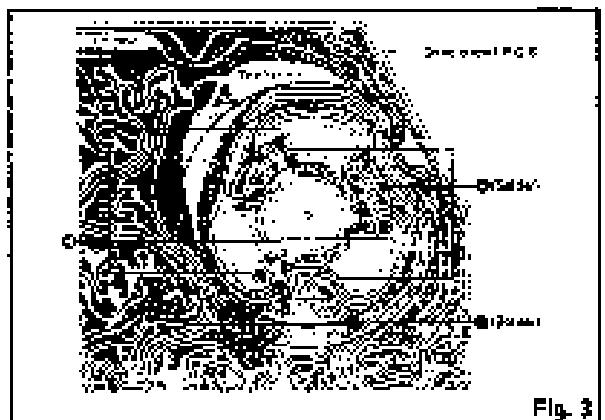

Fig. 3
6. Disconnect 18 soldered parts ⑥ of the stator coil and 4 soldered parts ⑦ of the F.G. detector coil as shown in Fig. 3.
7. Remove 3 screws ⑧ of the stator frame ass'y as shown in Fig. 3.